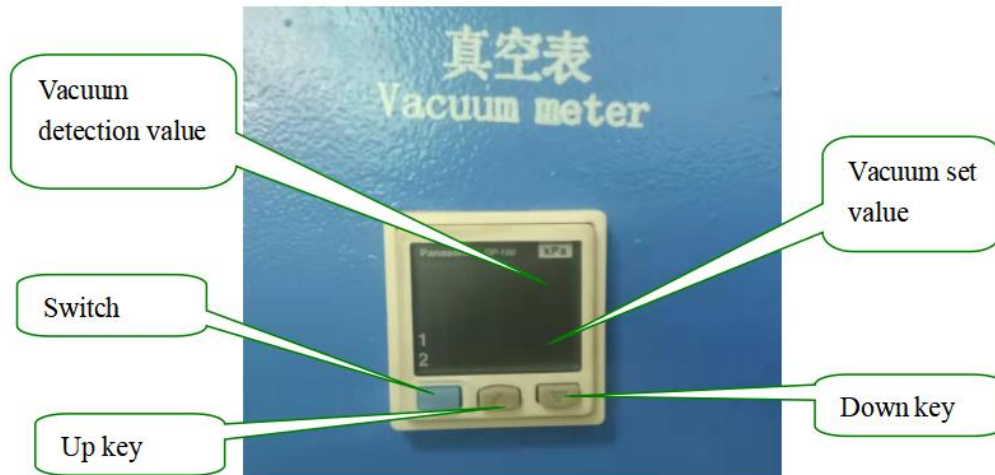

Figure 3
*Vacuum value setting: As shown in Figure 3, the upper line is the vacuum detection value, and the lower line is the vacuum set value. When vacuuming, when the vacuum in the sealed chamber reaches the set value, a signal is output to start the next process. Press the "blue key/switch" to display P1, which is to set the vacuum degree value, and then press the "up key" and "down key" keys to adjust the set vacuum value. (The setting range is generally around -85 to -90kpa)
*Supplementary air pressure setting: As shown in Figure 3, when supplemental air reaches the set pressure value, the signal will be output to start the opening work. Press the "blue key/switch" to display P1 first, and then display P2. The value of P2 is the pressure value for setting inflation. Press the "up key" and "down key" keys to adjust the set vacuum value. (The setting range is generally around -3~0kpa).